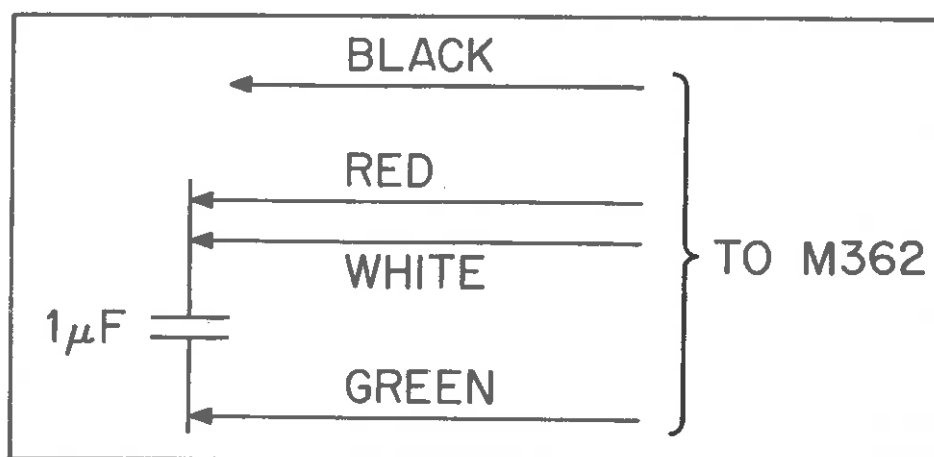

Figure II-3. DUMMY CELL CONNECTIONS FOR CONTROL I,
- (1) With the CELL switched OFF, replace the 10 k Ω dummy cell with the 1 μ F capacitor provided with the instrument. See Figure II-3. The check to follow confirms that the instrument can serve as a constant current source and charge and discharge a cell between selected potential limits. A capacitive load is necessary here because a resistive load would charge and discharge instantantly at a constant current, and instrument would simply. The voltage across a capacitor ramps smoothly in time if it is charged with a constant current.